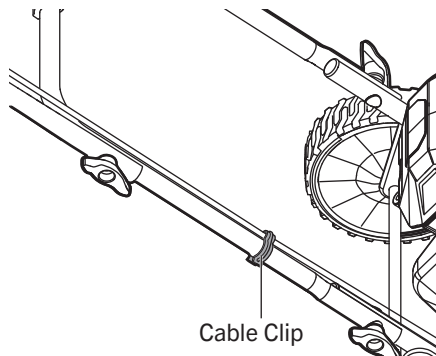

FIG. 6
3. Secure the cable to the middle handle frame using the cable clip as shown in Fig. 6.